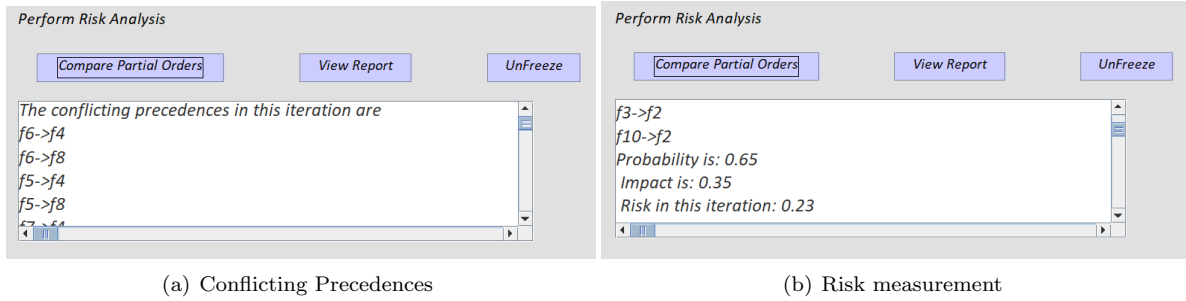

Figure 10: Partial Order comparison result
- STEP-8.* Click on the "Compare Partial Orders" button to see the set of conflicting precedences (refer to to portion marked as **F** in Figure 7). It also displays the quantitative risk exposure values (refer to Figures 10).